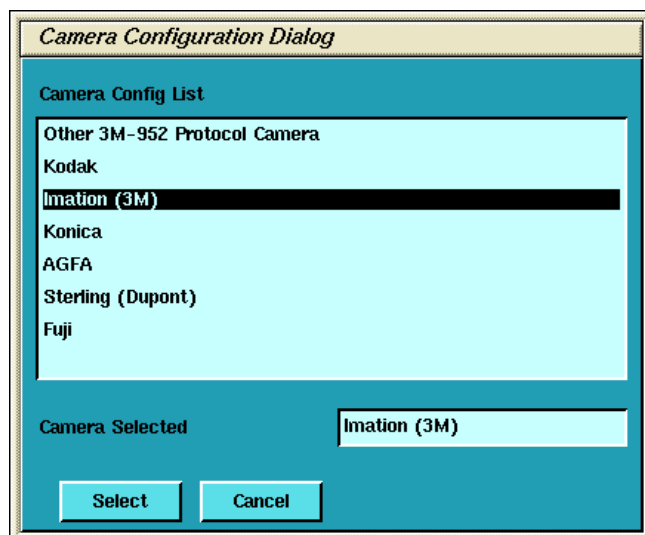

Figure 3-4 Camera Model Dialog (with DASM)
- 5.) To add a new laser camera, click DASM in the camera type dialog box. This brings up a list of available camera models. Select the appropriate model from the list and click SELECT (Figure 3-4). Now configure it.